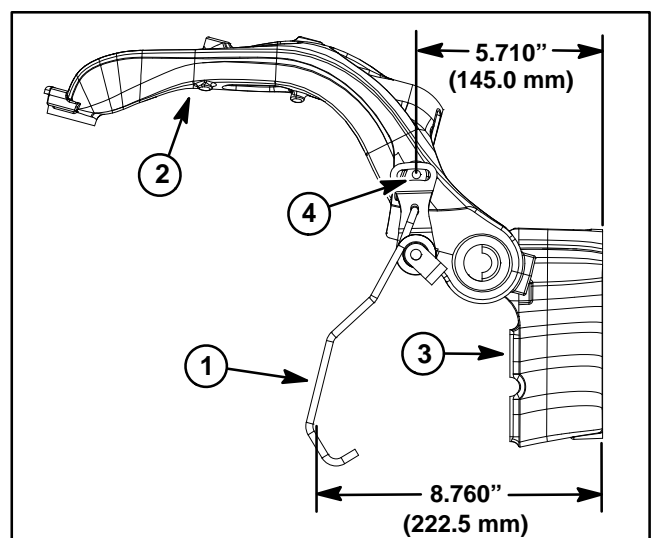

Figure 23
E. If stabilizer springs were removed from suspension assembly, move and support suspension assembly so that upper a–arm has stabilizer spring attachment hole positioned **5.710" (145.0 mm)** from rear of pivot mount. Then, adjust location of spring so the center of the spring end is **8.760" (222.5 mm)** from rear of pivot mount. Figure 23 shows dimensions for correct stabilizer spring adjustment.